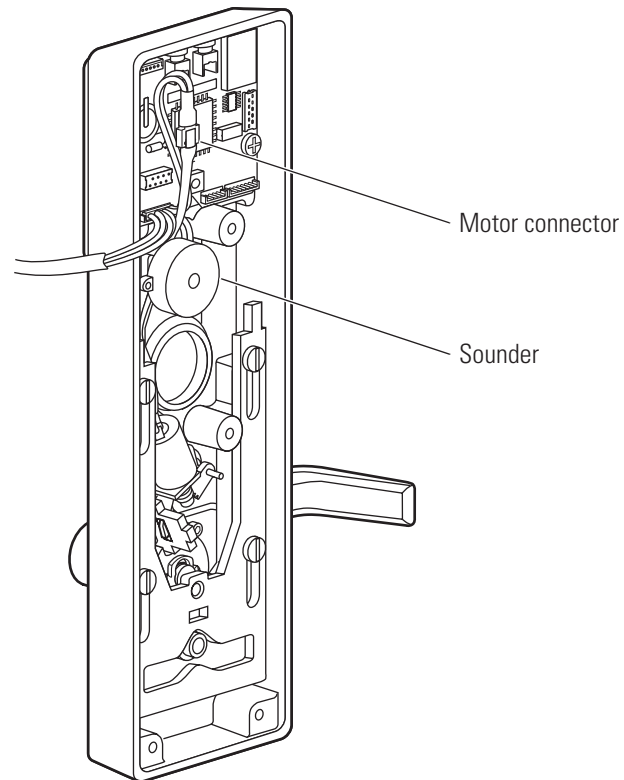

Figure 10.9 Reinstalling the motor assembly (B.A.S.I.S.escutcheon shown)
5. *For B.A.S.I.S. escutcheons*, reinstall the sounder onto the escutcheon. See Figure 10.9.